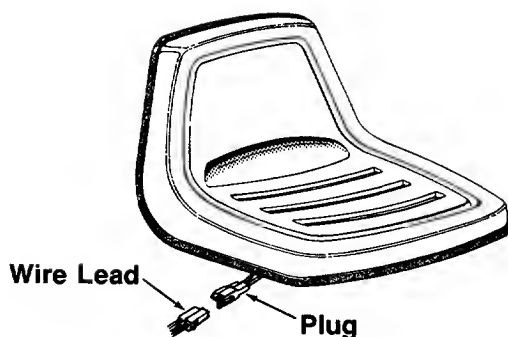

FIGURE 12.
2. Plug the wire lead which is in the wire harness beneath the seat into the plug on the wire lead extending from the right hand side of the seat. See figure 12.